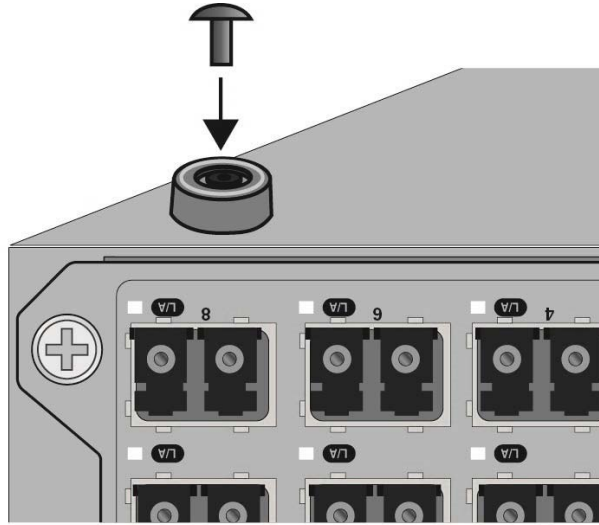

Figure 42. Inserting the Rivet into the Bumper Foot
- c. Insert the rivet to secure the bumper foot to the base. Refer to Figure 42 on page 77.